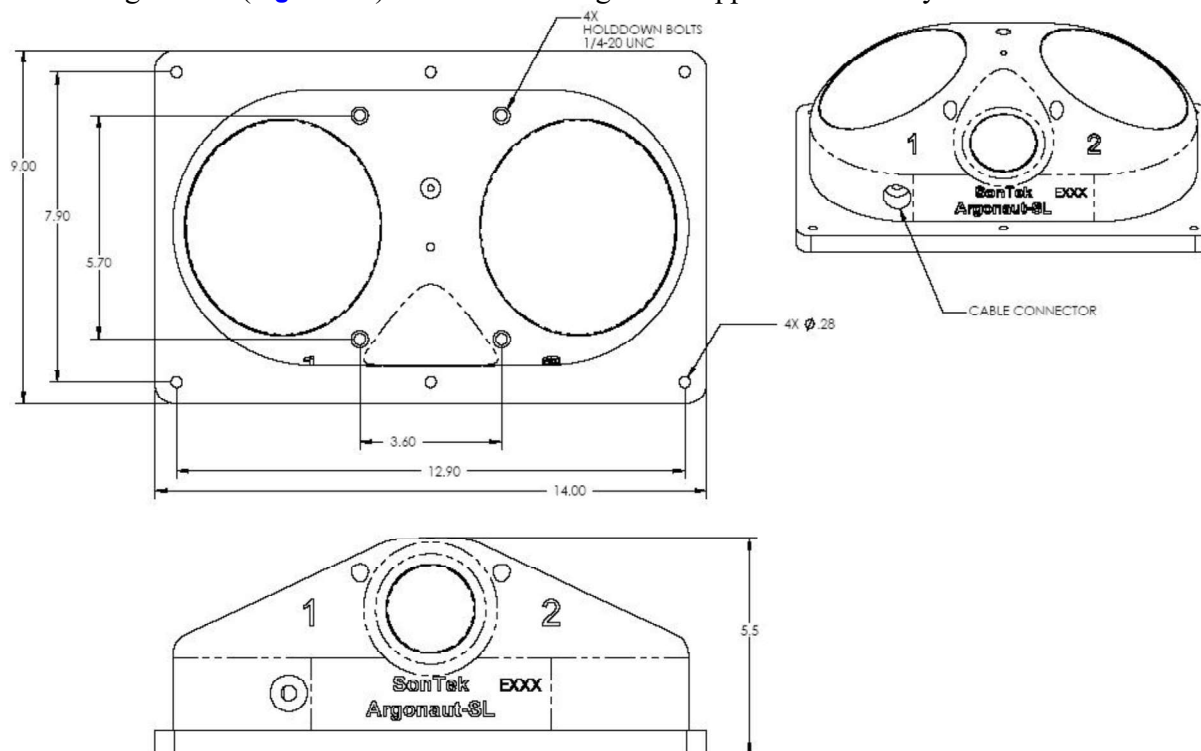

Figure 5-3. Low-Profile SL500 dimensions (in inches)
- Figure 5-3 shows a drawing of the mounting plate and SL500. This drawing includes all mounting holes and dimensions. All dimensions in this drawing are in inches.
- If preferred, you can also mount the SL without the mounting plate using the SL's four through-holes (Figure 5-3) and the mounting bolts supplied with the system.